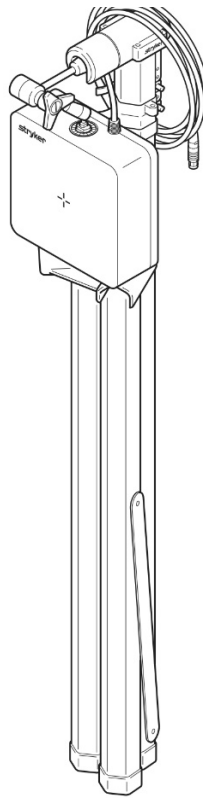

Fig 7. Field Generator Stand in Storage Position
6. For storage, fold the legs by releasing the quick release lever, sliding the yoke up the upright tube and close the quick release lever. Lower the field generator to rest between the legs and tighten the knob of the mounting arm to secure it in place (Fig. 7).